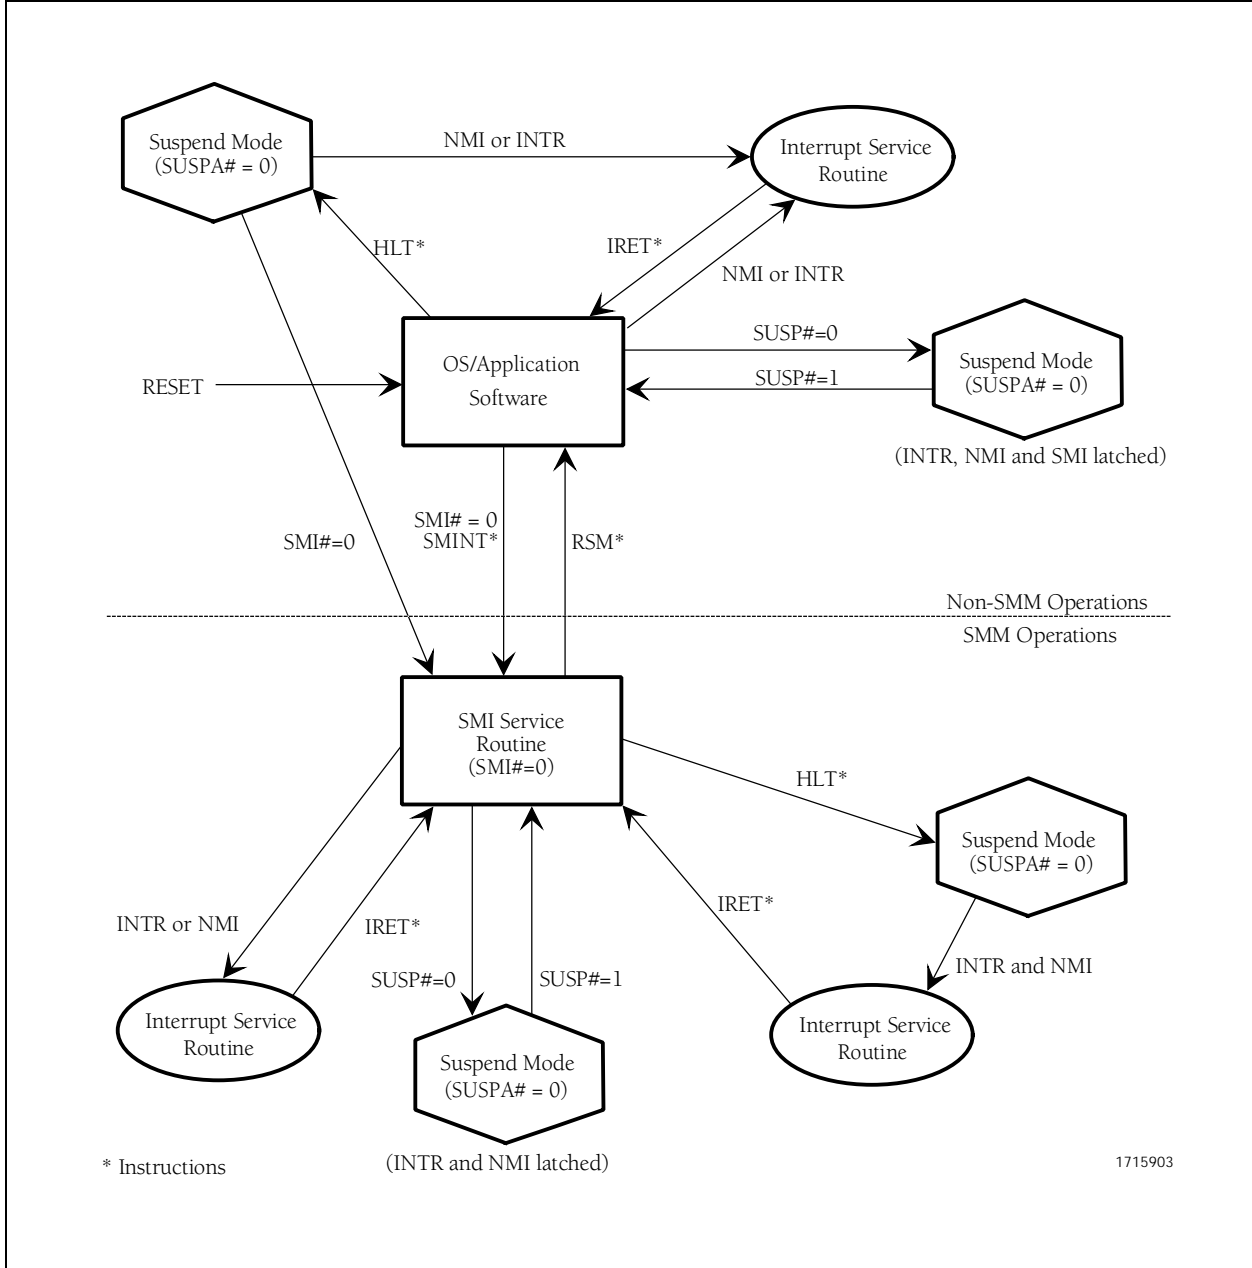

Figure 2-39. SMM and Suspend Mode State Diagram
The state diagram shown in Figure 2-39 (Page 2-81) illustrates the various CPU states associated with SMM and suspend mode. While in the SMI service routine, the 6x86MX CPU can enter suspend mode either by (1) executing a halt (HLT) instruction or (2) by asserting the SUSP# input.